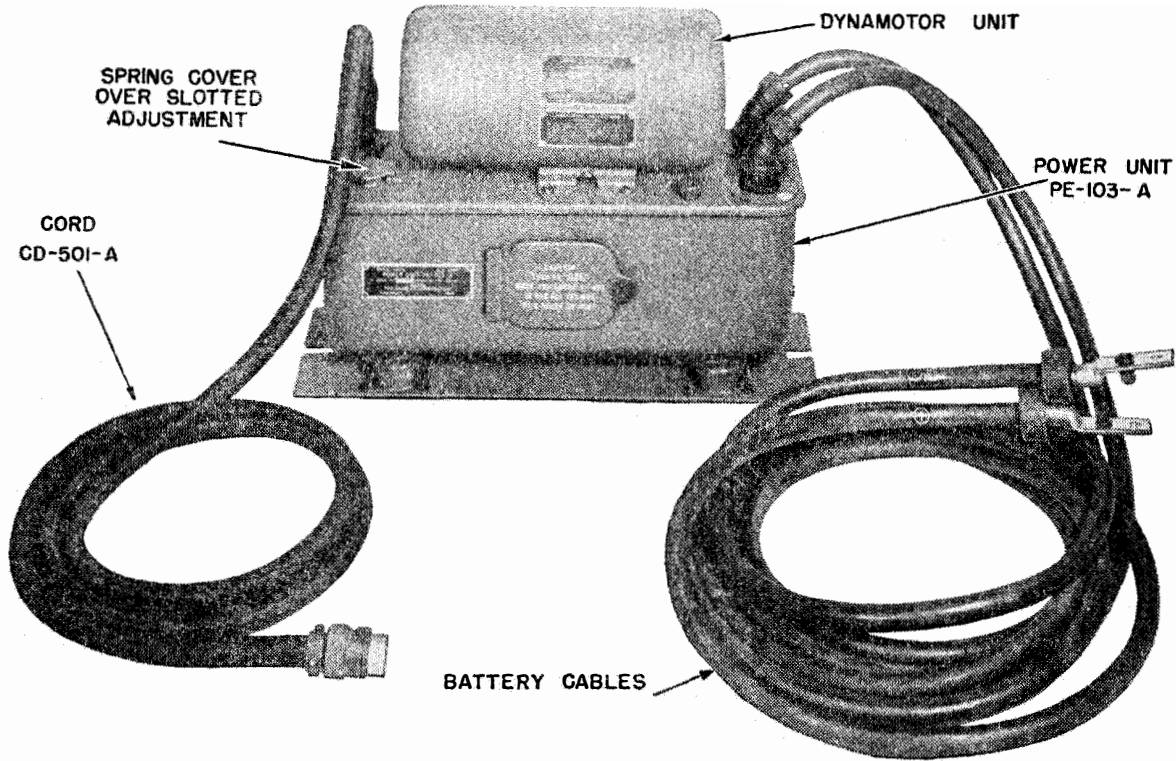

FIG. 3. POWER UNIT PE-103-A
e. *Power Unit PE-103-A*:— (FIG. 3)